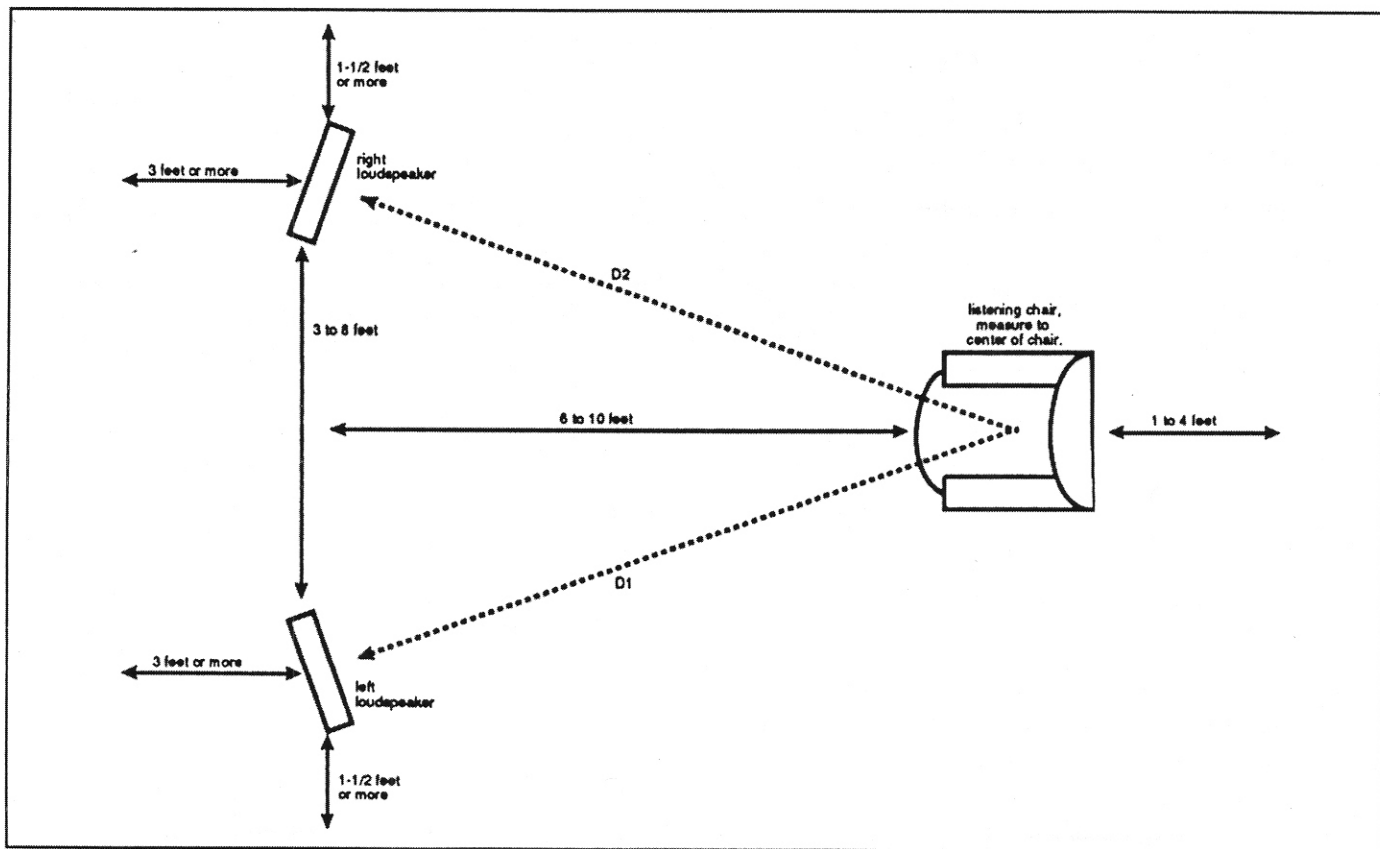

Figure 5 Initial Set Up
To perform the set-up, you'll need a steel tape measure and listening chair. Refer to Figure 5 and follow this 5-step procedure:
5. Carefully measure the distance from the CENTER of the left speaker's top woofer to the CENTER of the listening chair. Repeat the measurement for the right speaker. Adjust the chair so that both distances (D1 and D2 in Figure 5) are exactly the same. Accuracy within 1/4 INCH is desired.